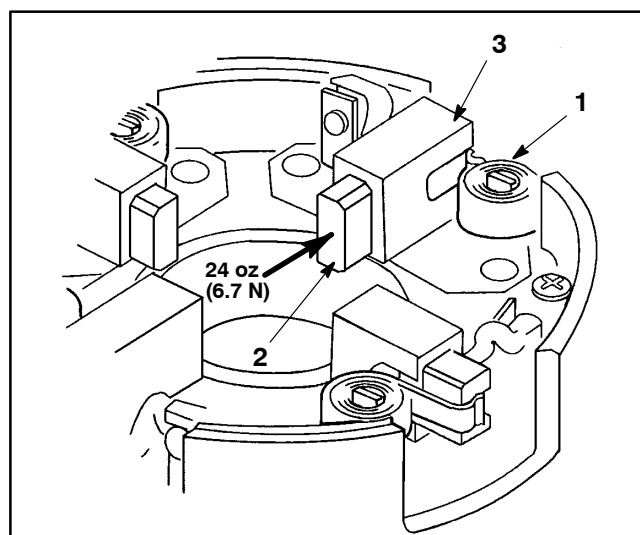

Figure 25
B. Using a spring scale, check tension on all four brushes in the direction of the spring (Fig. 25).
10. Slide brushes into holders. Secure brushes by positioning brush springs into the notch at the end of the brushes (Fig. 25).
- K. Slide brushes into holders. Secure brushes by positioning brush springs into the notch at the end of the brushes (Fig. 25).